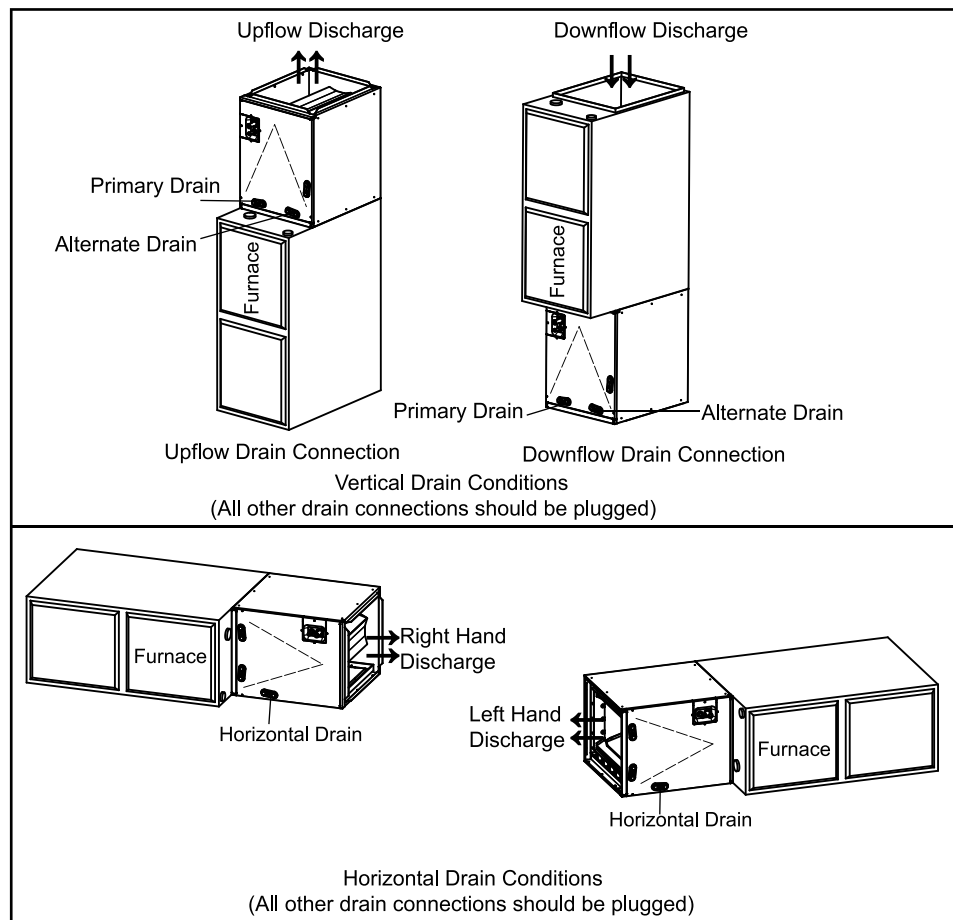

Fig.4 INSTALLATION OF CASED COIL
The coil can be positioned for bottom return air in the upflow and horizontal right applications. It must be positioned for top return when in downflow and horizontal left applications. See figure 4. For furnace applications, the coil must be installed downstream (in the air outlet) of the furnace.
1. See Fig.4 for coil installation and drain connection.
- C. Ensure that the coil is leveled well and seal the gap between coil and furnace. See Figure 4. In case that coil and furnace sizes are not matched, use proper size of sheet metal or other material to fill the gap and seal the gap to prevent air leak ;